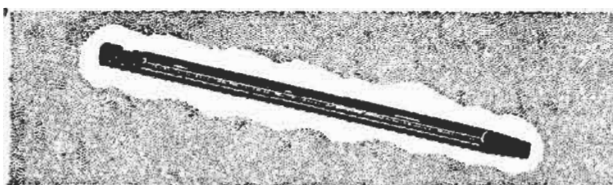

FIG. 11. This home-made tool is helpful when pulling on wires and moving parts.
► Now let's check underneath the radio. You will need a pair of long-nose pliers and some sort of an insulated probing tool. An ordinary test lead can be used in a pinch. Some servicemen use a pencil; however, since pencil lead is conductive and so may permit you to be shocked, we suggest you make up a tool similar to the one shown in Fig. 11 instead.